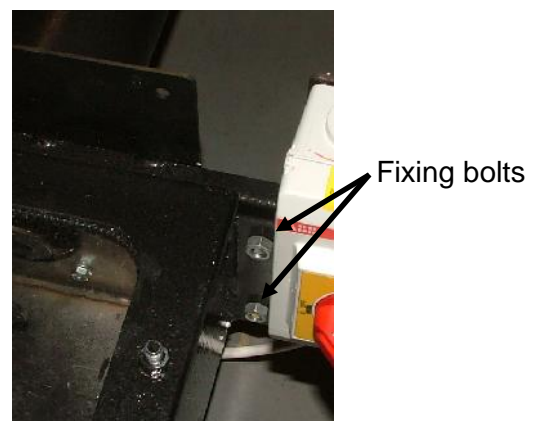

Figure 4-2. Auger unit flange fixings - right
2. Unscrew and remove the four nuts holding the mounting flange to the auger unit and remove the flange over the auger. Refer to Figure 4-2. Leave the circular neoprene gasket in place on the auger.